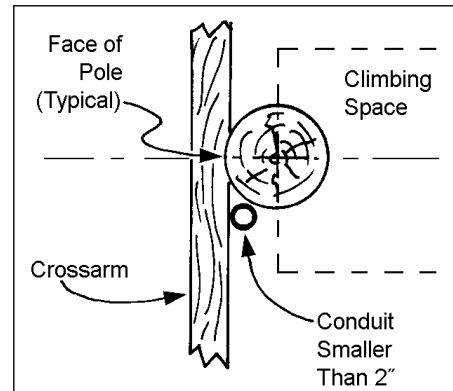

Figure 2.1
- 2.1. A single conduit smaller than 2" with conductors of less than 750 volts potential may be placed directly on the pole in the crotch of the crossarm (Fig. 2.1)